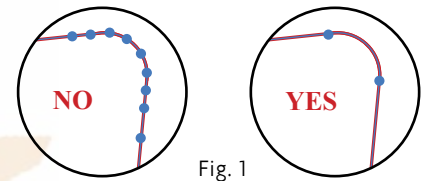

Fig. 1
- Vector path for custom cut panels provided on a separate, non-printing layer labeled "Cut Path". Use as few anchor points as possible (See Fig. 1). Standard corner radius is 1/16" Any radius is available. Specify size in inches.